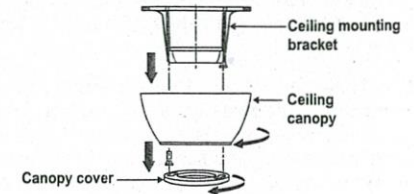

Figure 5
Step 1. Remove the decorative canopy bottom cover from the canopy by turning the cover counter clockwise. (Fig. 5)
Step 2. Remove the mounting bracket from the canopy by removing the non-slotted screw from the bottom of the mounting bracket and loosening the slotted one a half turn from the screw head. Next, turn the canopy counter clockwise to remove the mounting bracket from the canopy. (Fig. 5)